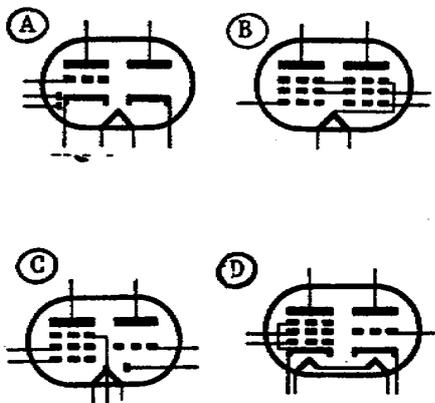

Figure 4-2. Four multiunit tube symbols.
20. A multiunit tube houses the electrodes for two or more tubes inside one envelope. Of the four multiunit tube symbols shown in figure 4-2, which is the symbol for a triode-pentode tube?